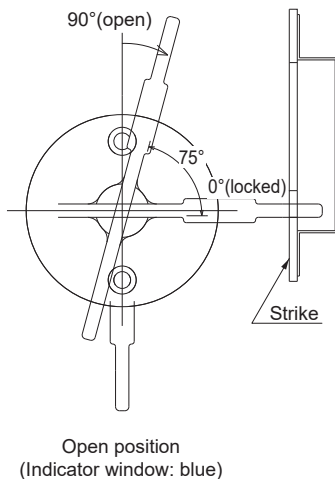

**Fig. 9**
Ensure that the Latch body, stopper and lever are assembled as shown on Fig.8 (Right-hand) or Fig.9 (Left-hand), shown the right page. Mounting screws are not provided. Recommended screw size is shown in the table below.
- If not, disassemble and change the position of the stopper as shown above in Fig.8 (Right-hand) or Fig.9 (Left-hand).